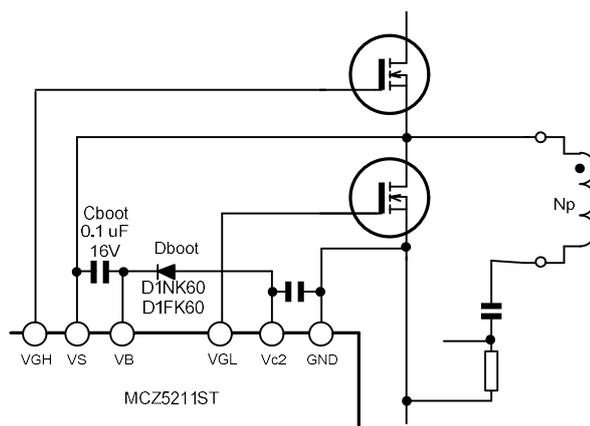

Figure 24 Bootstrap high-side Vcc generating circuit
As shown in **Figure 24**, the floating power supply (VB) for the high-side MOSFET drive is generated by the bootstrap circuit, which uses the Dboot diode and Cboot floating smoothing capacitor towards the high-voltage side, using the Vc2 pin 12.5 V regulator output capacitor as the voltage source.